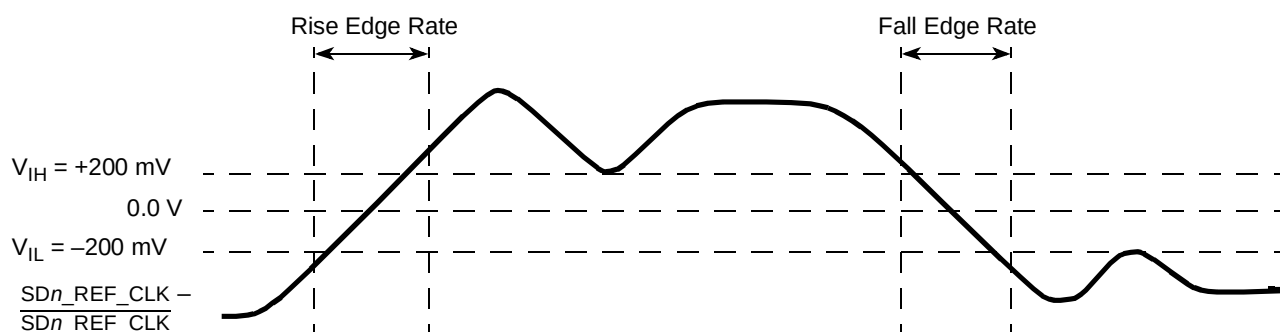

Figure 50. Differential Measurement Points for Rise and Fall Time
3. Measured from -200 mV to +200 mV on the differential waveform (derived from SDn_REF_CLK minus SDn_REF_CLK). The signal must be monotonic through the measurement region for rise and fall time. The 400 mV measurement window is centered on the differential zero crossing. See Figure 50.